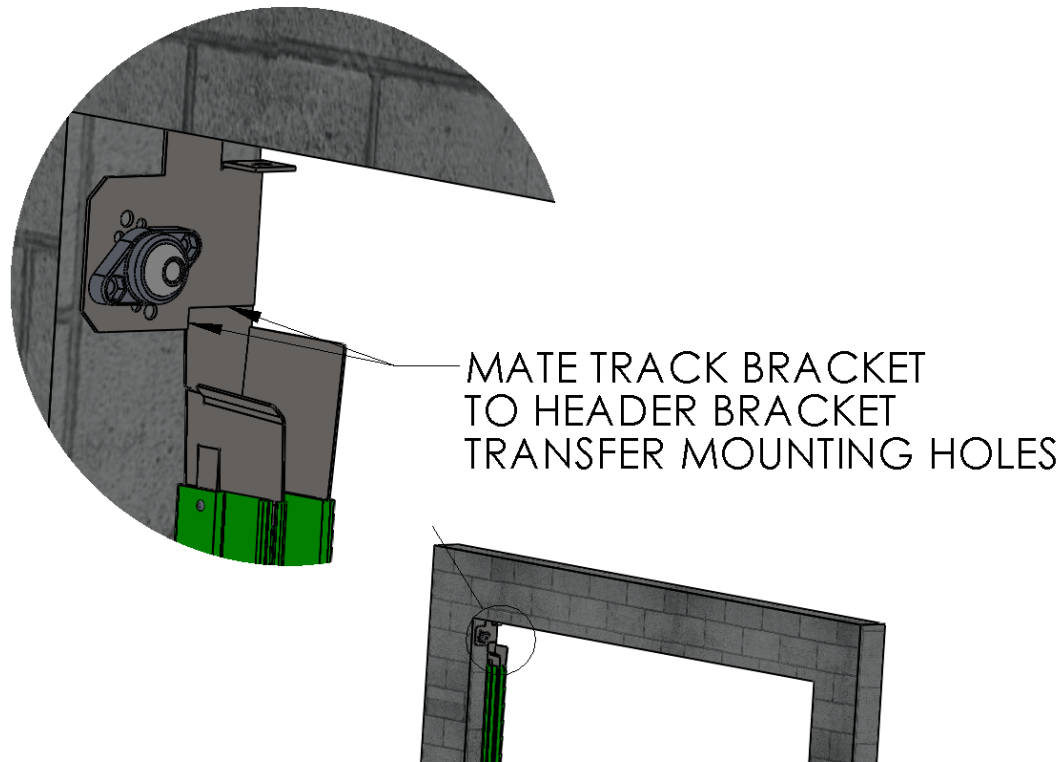

Figure 5 LOCATE, MARK, INSTALL TRACK ASSEMBLIES
1. To locate the Track Assemblies, align the mating surfaces of the Track Transition Bracket and the Header Mounting Bracket. (Figure 5 LOCATE, MARK, INSTALL TRACK ASSEMBLIES)